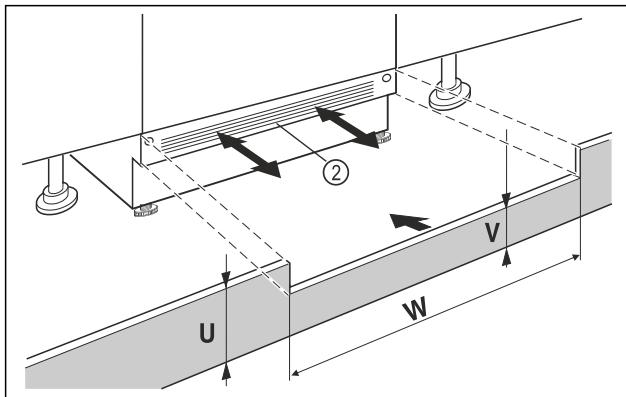

Fig. 35 Example illustration
- Put on the appliance base cover Fig. 35 (2) but do not fix it in place yet.
- If the base panel is visible Fig. 35 (2), pull it forwards so that the front edge of the ventilation grille and the unit base panel are level.
- If the base panel is concealed Fig. 35 (2), push it all the way back.
- Ensure that the ventilation slots are completely free: If necessary, cut the height of the unit base panel Fig. 35 (U) to size!
- ▷ Adjust the web height Fig. 35 (V) under the appliance base panel Fig. 35 (2) along the niche width Fig. 35 (W).